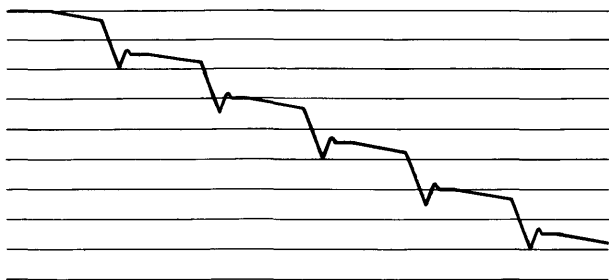

Figure 51. Bypass Adjusted too Tight (Hydraulic Bounce)
- (3) With the needle valve adjusted too tight (as in step 6) the resulting graph will be similar to Figure 51.